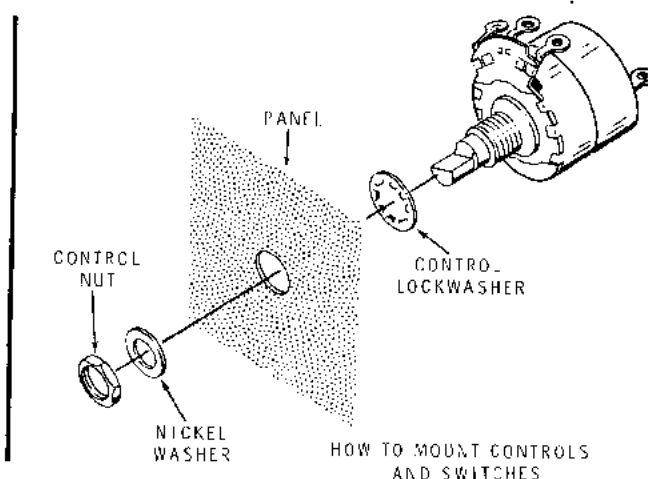

Figure 7
- () In position E, mount the 10 KΩ control (generator level control) with the switch on the rear. Use lockwasher and nut as shown in the diagram. Do not tighten this nut as it will be used later for attaching the chassis to the panel. See Figure 7.